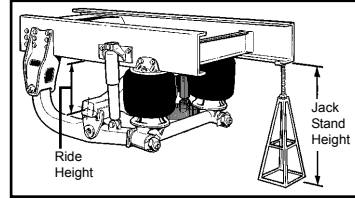
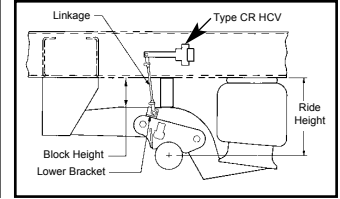
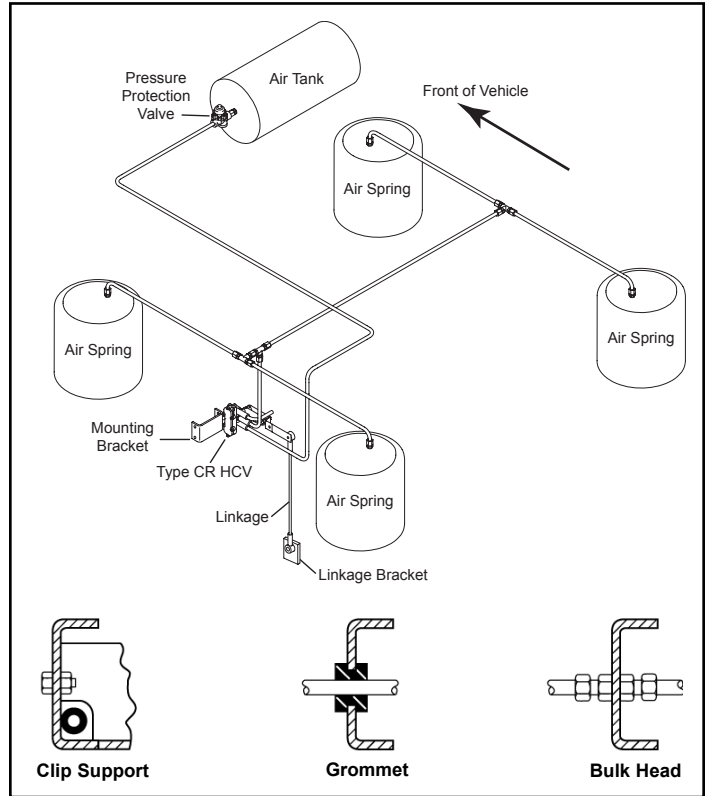
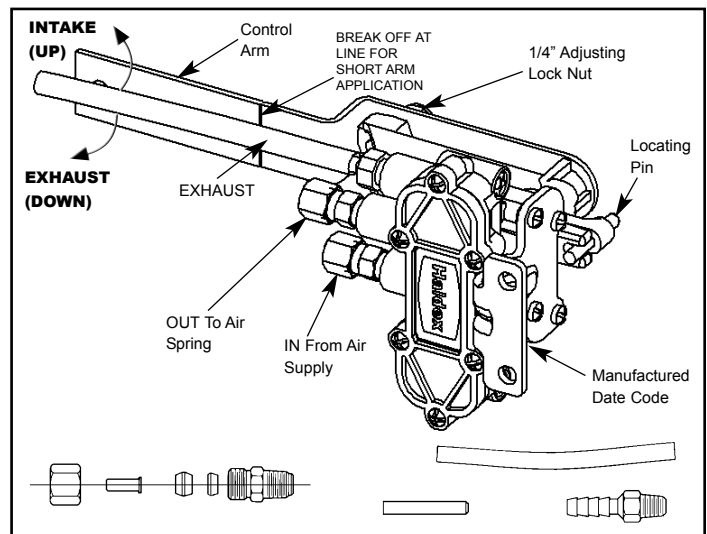

Figure 1. Jack Stand Height
Figure 2. Block Height
Figure 3. Single CR HCV Piping Diagram
Figure 4. Features of Type CR HCV
Support the vehicle frame with adequate jack stands (Fig. 1) or spacer block (Fig. 2). Check to make sure there is enough room to work around and under the axle where the Height Control Valve (HCV) linkage is attached.
- Locate and install Mounting Bracket (Fig. 3). Attach Height Control Valve to Mounting Bracket with 1/4" Lock Nuts and Bolts (Fig. 3). Allow for control arm clearance. (Refer to form 94100466/L31177 for installation instructions)
- Determine the location of the Linkage Bracket (Fig. 3) so that when the Linkage is connected to the control arm of HCV, proper ride height can be achieved. (Fig. 2). Then weld Linkage Bracket securely in position.
- Install air lines as shown (Fig. 3). Where necessary use clip supports, grommets and bulk head fittings. **DO NOT** use Piping Compound or Teflon tape. Use a drop of oil on each brass sleeve.
- With vehicle at proper Ride Height and the HCV's control arm secured in center position with 1/4" Adjusting Lock Nut, install Wood Locating Pin (Fig. 4). Install Linkage to control arm and Linkage Bracket (Fig. 3) with 1/4" Lock Nut and Shoulder Bolt. Torque to 12-17 ft-lbs.